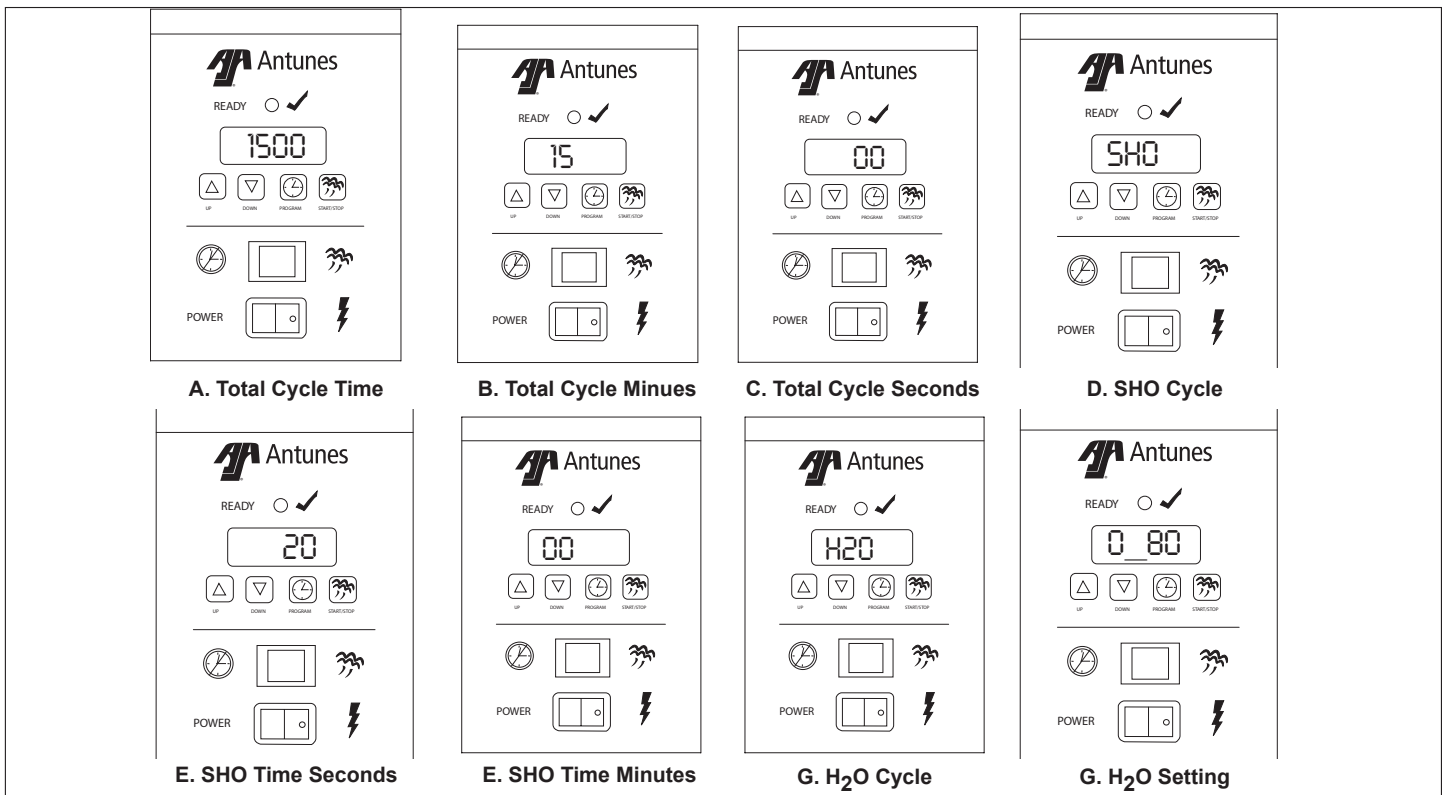

Figure 4. Control Programming Sequence
To program the control, refer to Figure 4 and use the following procedure in sequence:
1. Turn the power on. The display shows the factory programmed Total Cycle Time in minutes and seconds (Item A, Figure 4).
3. To change the Total Cycle Time in minutes, use the UP or DOWN Arrow buttons to change the time (Item B, Figure 4).
4. Press and release the Program button again and use the UP or DOWN arrow buttons to change the Total Cycle Time in seconds (Item C, Figure 4).
5. To change the SHO factory settings, make sure the control is in Program mode, then press and hold the two arrow buttons simultaneously for 1-2 seconds and then release. SHO will be displayed (Item D, Figure 4).
6. Press and release the Program button and use the UP or DOWN arrow buttons to change the SHO setting in seconds (Item E, Figure 4).
7. Press and release the Program button again and use the UP or DOWN arrow buttons to change the SHO setting in minutes (Item F, Figure 4).
8. Press and release the Program button again and "H2O" is displayed (Item G, Figure 4).
9. To change the H2O setting, press and release the Program button again to display the setting (Item H, Figure 4). Use the UP or DOWN arrow buttons to increase or decrease the time.